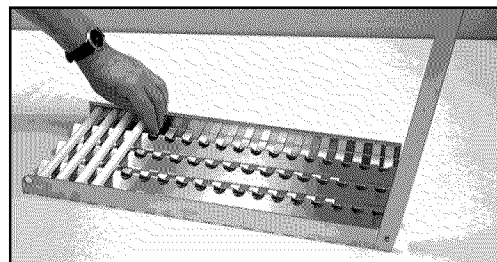

Fig. 39
3. Place 18 ceramic rods on the radiant (Fig. 39).